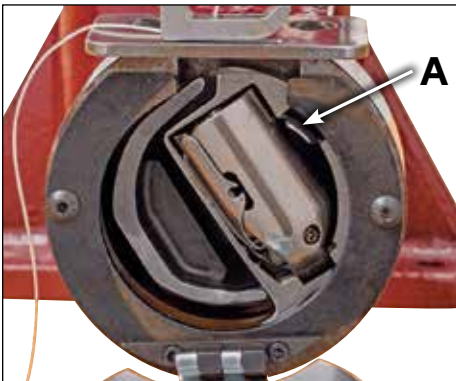

Figure 13
- 1) Turn machine over until bobbin case sets in position shown. **(Figure 13)**